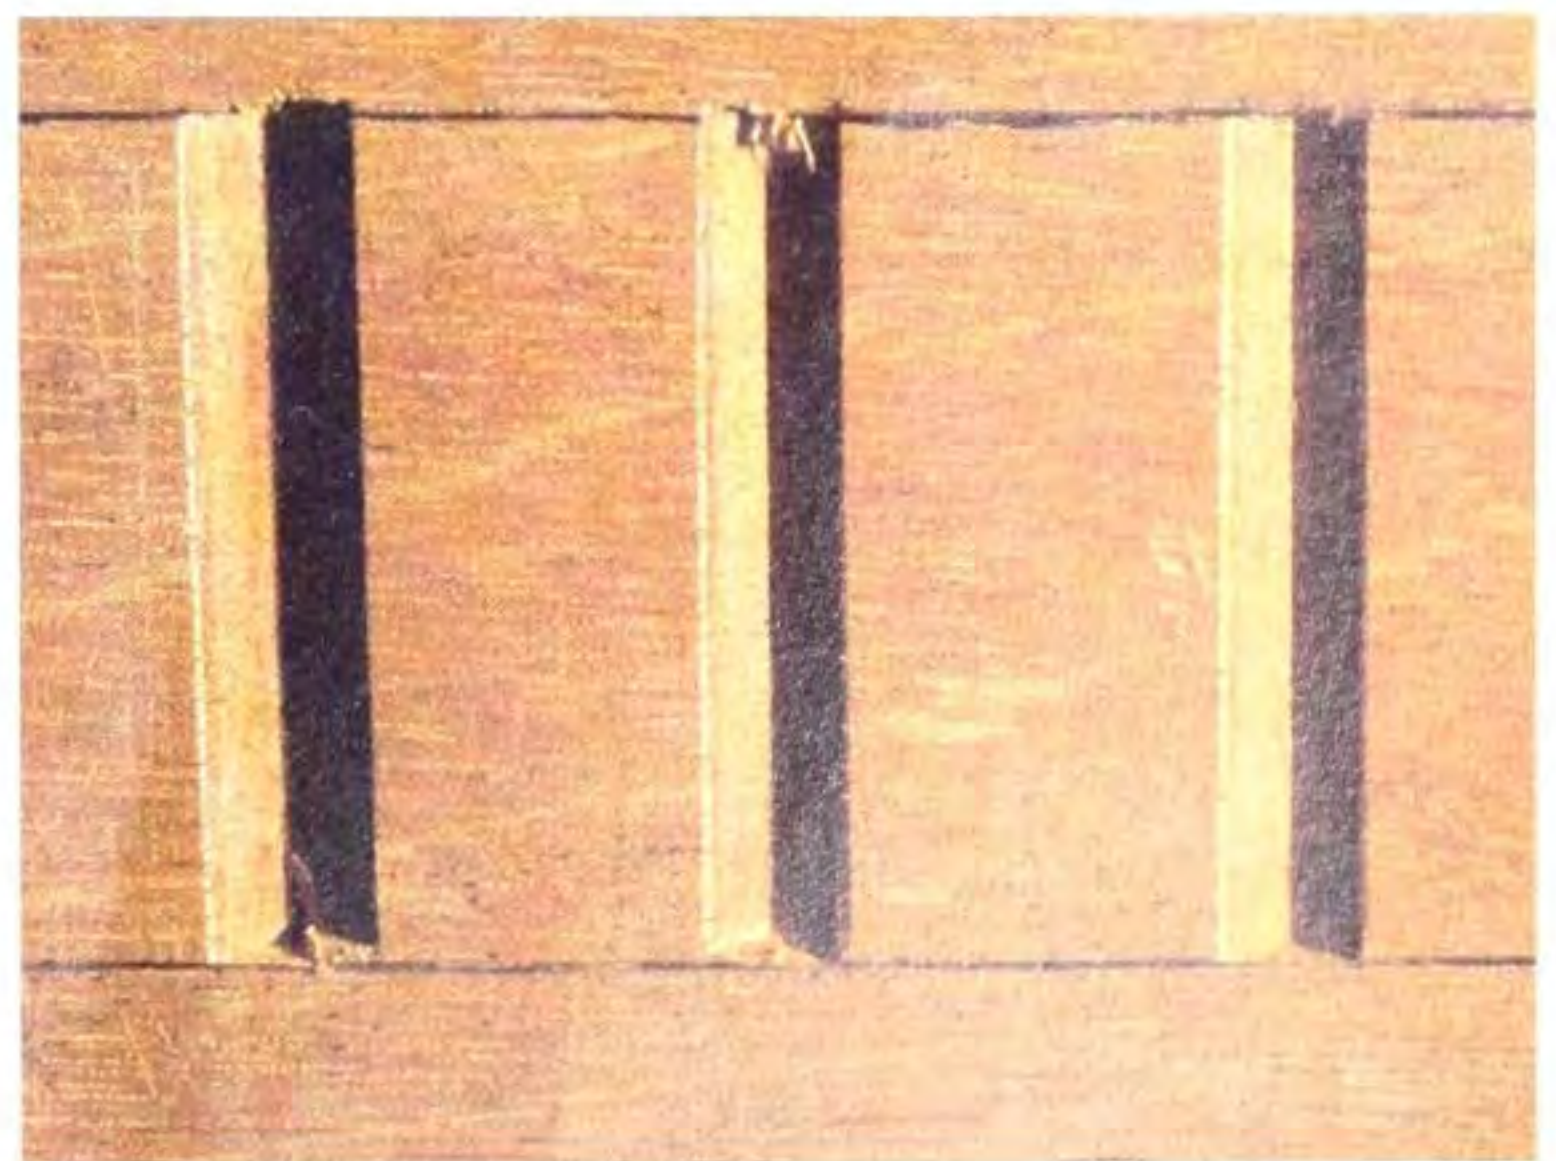

Fig 5.14 You should end up with a series of vertical practice trenches like these. Make sure they are all of an equal width.
- 8 Move on to the next pair of lines and repeat the stop and angled cuts to produce a second trench (see Fig 5.14).